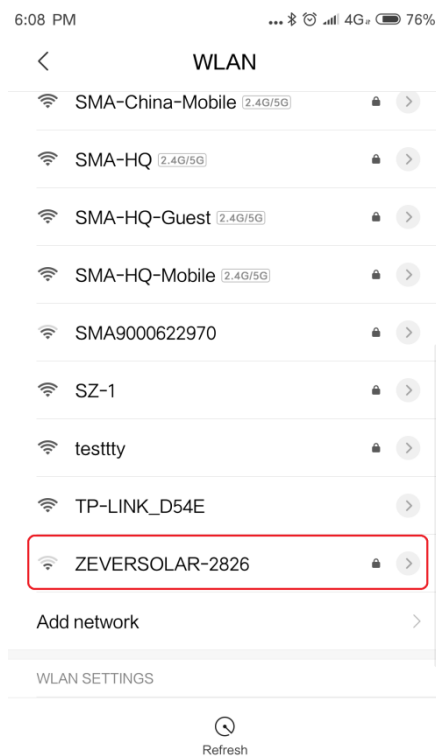

Figure 2-3-1
Step 1: Open the WIFI management page of the mobile phone system and find the WIFI hotspot named ZEVERTSOLAR-XXXX. As shown in Figure 2-3-1.